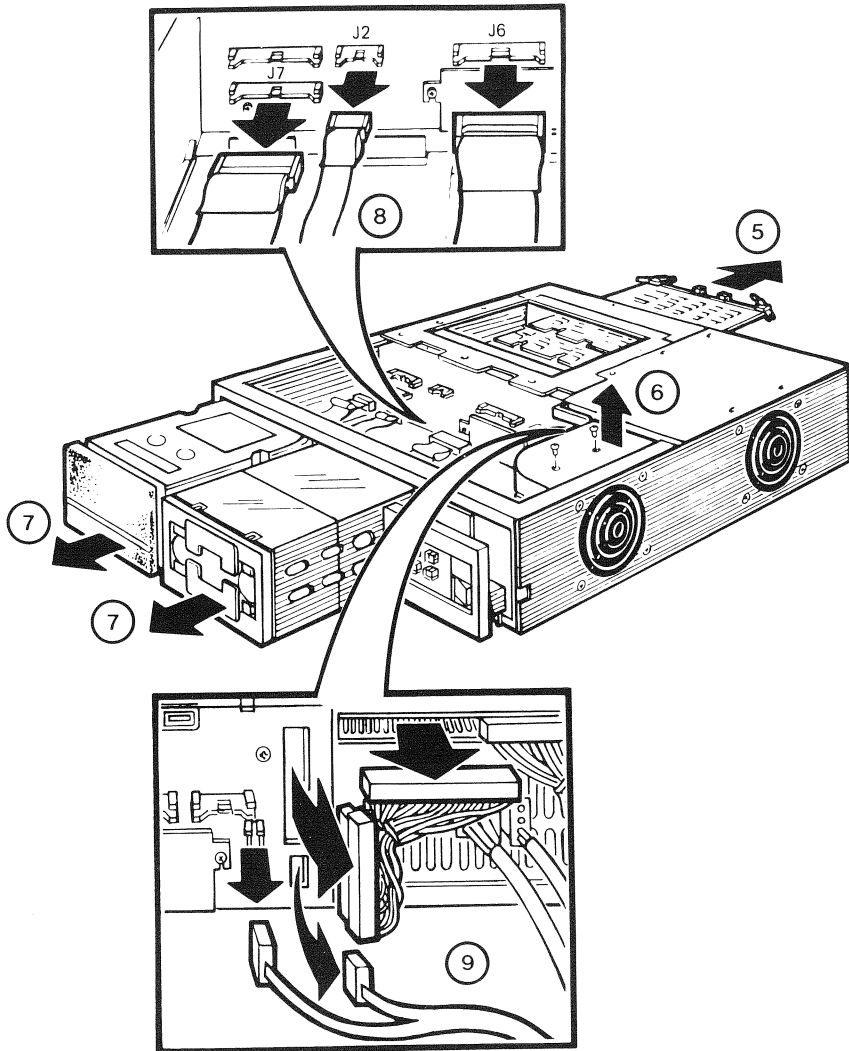

Figure 8-19 Cables and Module Removal
5. Remove all modules (Figure 8-19). Refer to Section 8.9 for instructions.